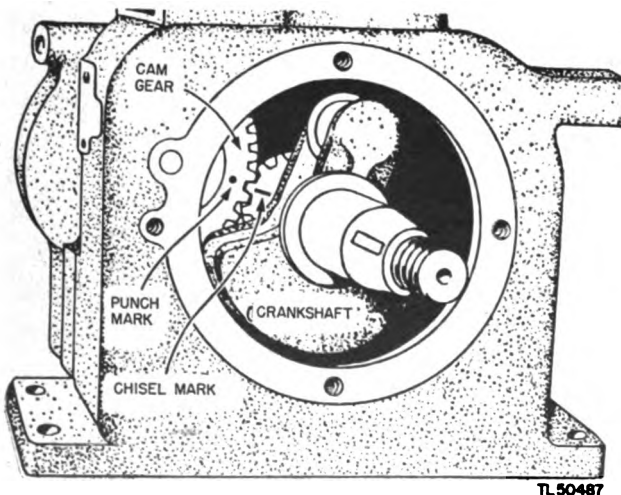

Figure 51. Valve timing.
(5) *Timing.* The timing of the valves is fixed by the meshing of the camshaft gear with the gear on the crankshaft. These gears are properly meshed when the punch mark on the camshaft gear is in line with the mark on the crankshaft collar. (See fig. 51.)
(5) *Valve timing*. The timing of the valves is taken care of by the meshing of the camshaft gear with the gear on the crankshaft. These gears are properly meshed when the mark on the camshaft gear is in line with the mark on the camshaft collar. (See fig. 51.)